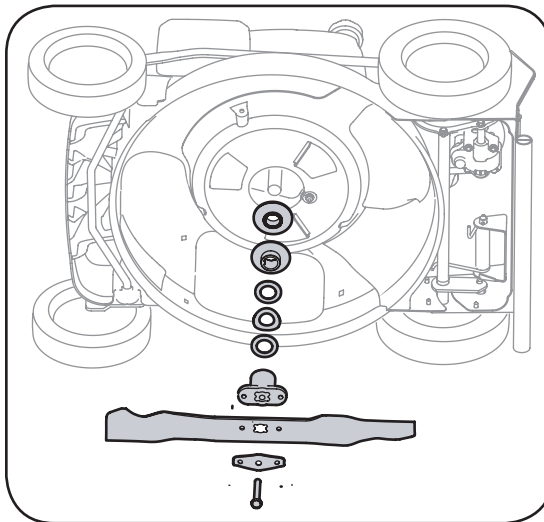

Figure 5-3: To access blade, remove the bolt, support, blade, and adapter.
2. Remove bolt, bell blade support, blade, and blade adapter from the engine crankshaft. See Figure 5-3. **When removing these items, the pulleys and washers may also break free from the crankshaft. Be sure to make note of the orientation of these items for reassembly.**